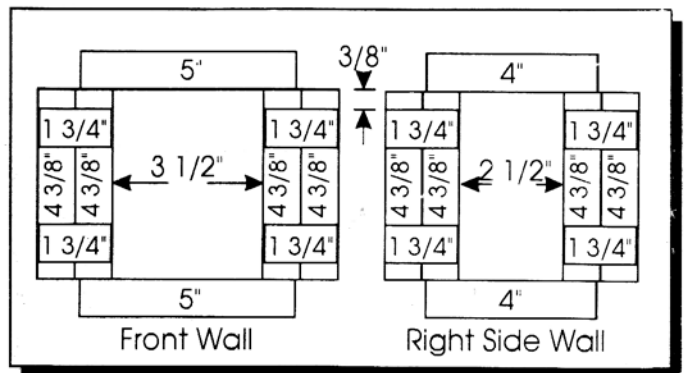

Figure 15- Window Trim
- a. Front Wall- glue two 5", four 4 3/8", and four 1 3/4" pieces together. See Figure 15.
- b. Right Side Wall- glue two 4", four 4 3/8", and four 1 3/4" pieces together. See Figure 15.